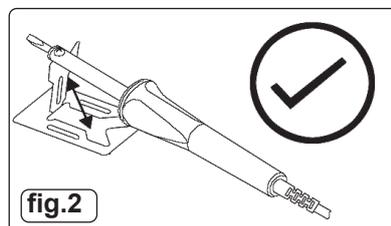

fig.2
4.1.2. **Preparing the iron stand.** Before using the soldering iron, set up the metal stand provided by bending the centre section upwards so that it is nearly vertical to the rest of the stand as shown in fig.2. Rest the soldering iron on the stand. Plug the iron into the mains and switch on leaving the iron on the stand to heat up.